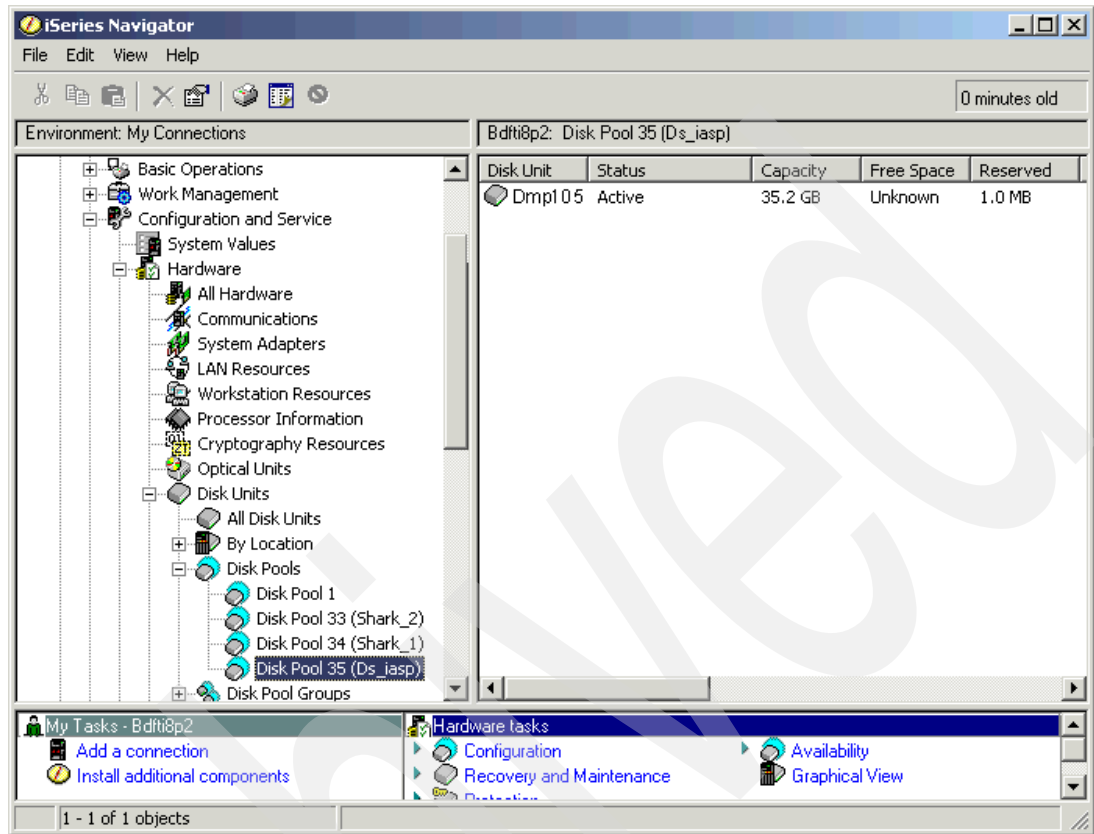

Figure 5-41 New logical volume shown in iSeries Navigator
3. To see the logical volume, expand **Configuration and Service** → **Hardware** → **Disk Units** → **Disk Pools**, and click the disk pool that you just created as shown in Figure 5-41.